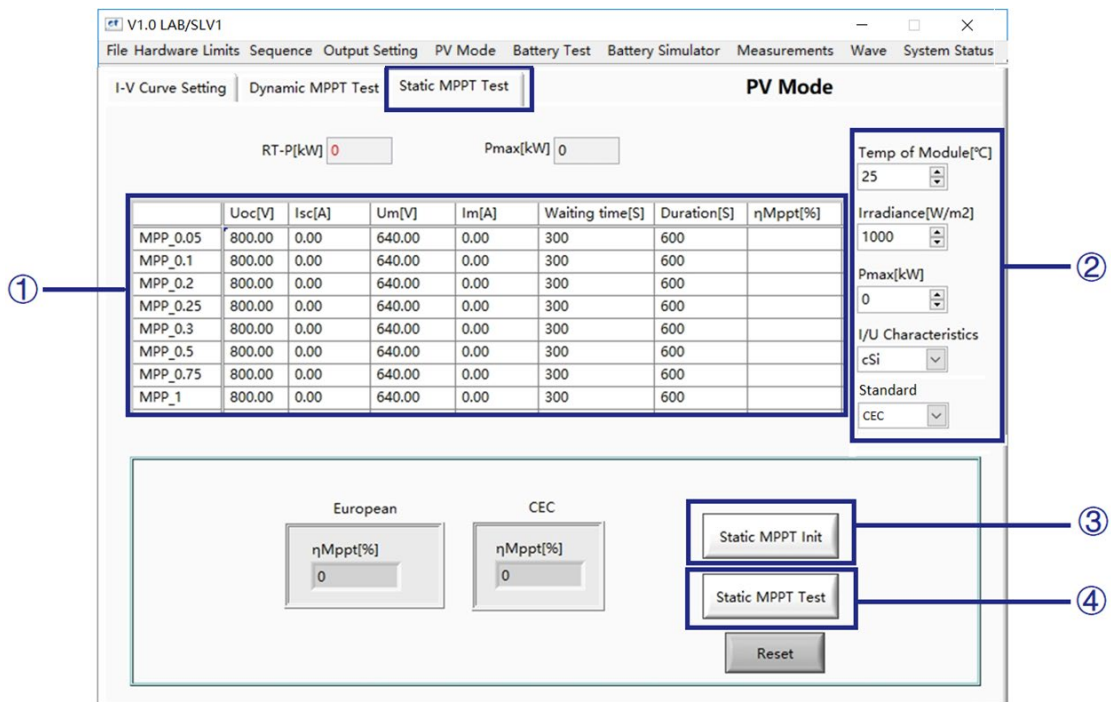

Figure 5-16 Static MPPT test
Set the temperature (Tamp), I/U characteristics (crystalline silicon/thin film mode), irradiance (Irradiance), Pmax and other parameters (Figure 5-16②), click the initialization button (Static MPPT Init) (Figure 5-16③), and finally click Static MPPT Test button (Static MPPT Test) (Figure 5-16④), the software will automatically calculate and display the real-time parameters during the test (Figure 5-16⑥). 5 minutes for each line and 10 minutes for the test. After the test is completed, the equipment will automatically shut down. After all tests are completed, the static maximum power point tracking efficiency η_{Mppt} will be calculated according to European standards and CEC standards. Click "Reset" to restore the data in the static efficiency test panel to the initial state.